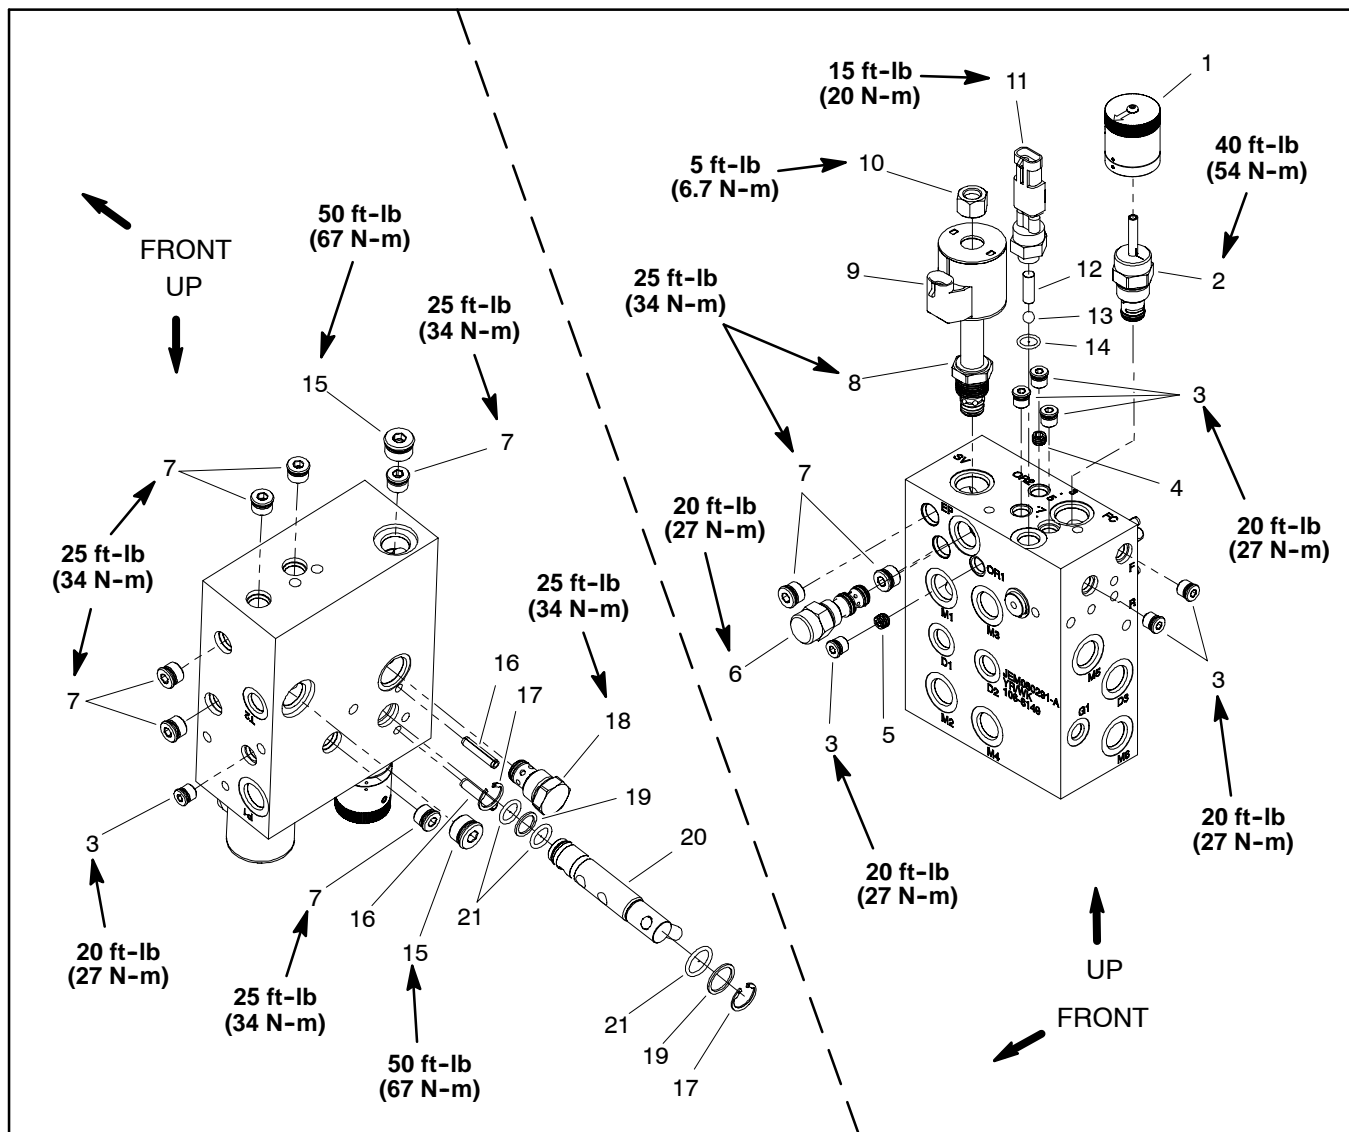

Figure 46.1
**NOTE:** The hydraulic manifold shown in Figure 46.1 uses several zero leak plugs. These plugs have a tapered sealing surface on the plug head that is designed to resist vibration induced plug loosening. The zero leak plugs also have an O-ring as a secondary seal. If zero leak plug removal is necessary, lightly rap the plug head using a punch and hammer before using an allen wrench to remove the plug; the impact will allow plug removal with less chance of damage to the socket head of the plug.
C. Torque cartridge valve using a deep well socket to values identified in Figure 46.1.